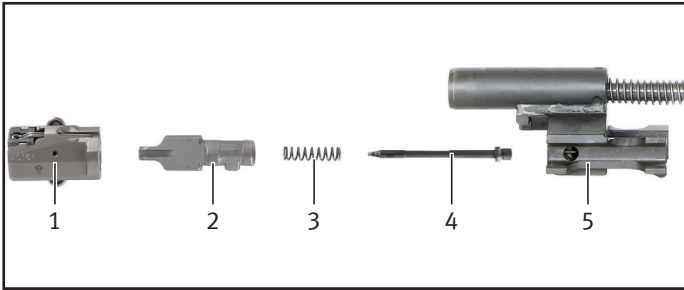
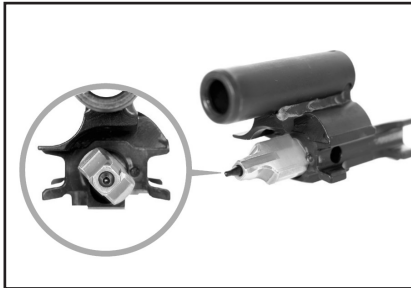

Fig. 45 – Assemble bolt group
Fig. 46 – Assembly position for locking piece
1. Push pressure spring for firing pin onto firing pin (Fig. 45).
2. Place firing pin with pressure spring for firing pin into bolt head carrier (Fig. 45) Observe assembly position of locking piece (Fig. 46).
4. Turn locking piece anti-clockwise until assembly position has been reached (Fig. 46).